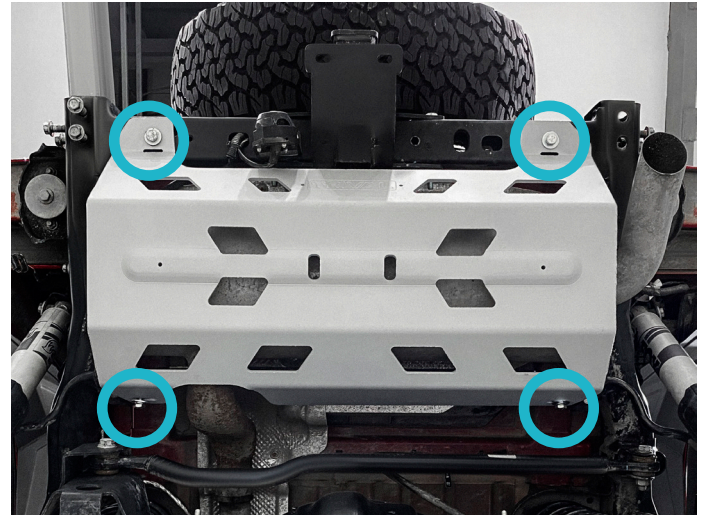

Fig.6
6. Install muffler skid plate (pos.1) on the Driver's side and Passenger's side brackets (pos. 2 and 3) and inner nuts (pos. D) using bolts M10x25 (pos.A), washers 10(pos.B) and penny washers 10 (pos.C) (fig.6).